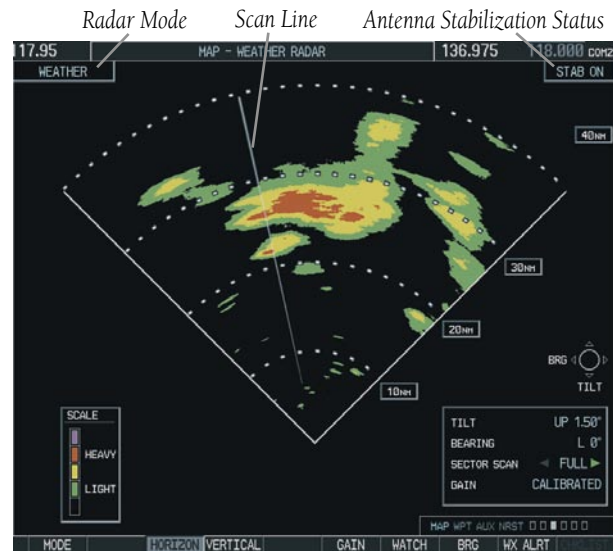

Figure 10-28 Horizontal Scan Display
- 6) The horizontal scan is initially displayed (Figure 10-28). If desired, select the **VERTICAL** Softkey to change to vertical scanning.